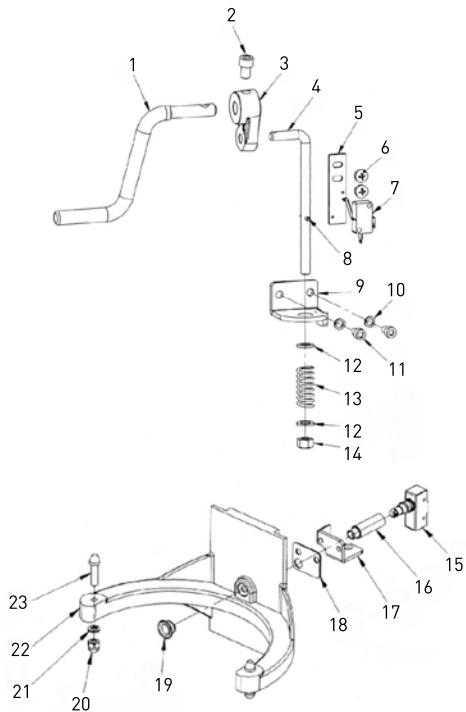

Figure 3: Bowl lifting assembly of the machine
- Bowl lifting assembly (Figure 3);
Machine part list of Figure 3